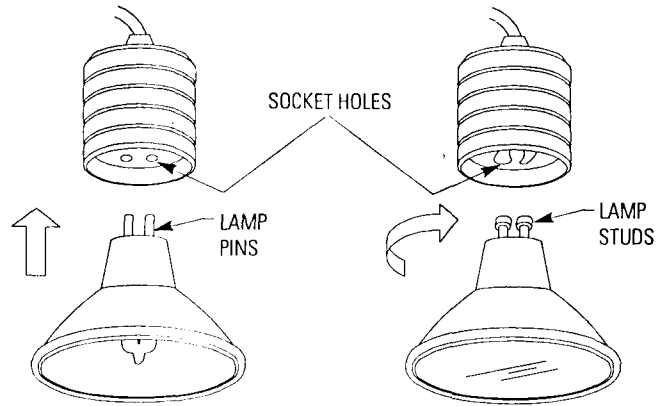

FIG. 5A
2. For 6275B insert the two LAMP PINS into the SOCKET HOLES (Fig. 5A); For 6275T insert the two LAMP STUDS into the SOCKET HOLES and twist clockwise (Fig. 5B).